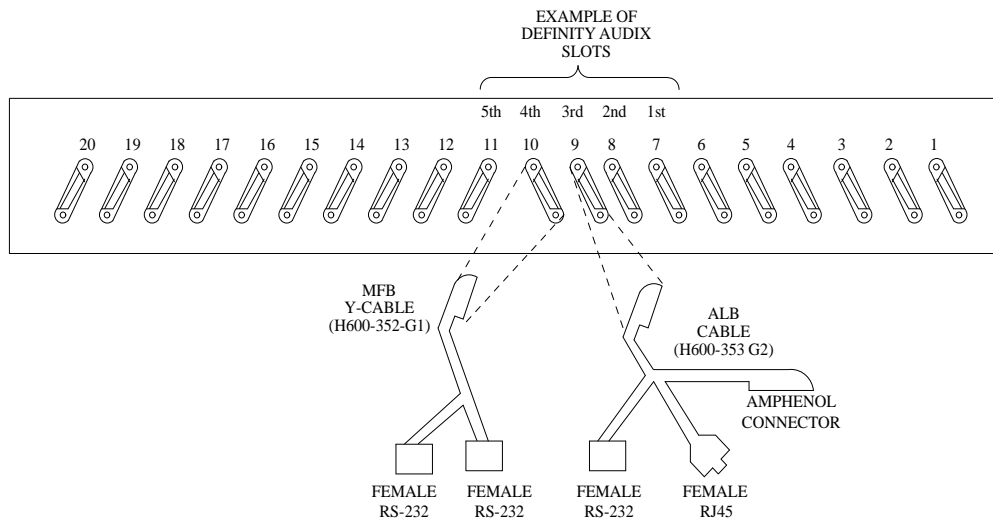

Figure 2-1. Connecting the Adaptor Cables Rear-Panel View
The slots are numbered from left to right on the front panel of the switch cabinet, and from right to left on the rear panel as shown in Figure 2-1, *Connecting the Adaptor Cables Rear-Panel View*. The five port slots are occupied by the DEFINITY AUDIX system assembly as follows:
3. Referring to Figure 2-1 and Steps 3a and 3b below, connect the DEFINTY AUDIX system assembly adaptor cables to the port connectors on the back of the switch.